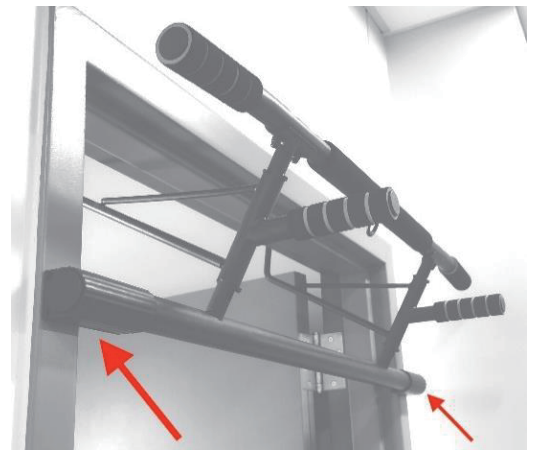

Figure 3
6. Center the pull-up bar to the doorframe and rotate the plastic protectors to have the flat surface resting against the doorframe (Figure 3).